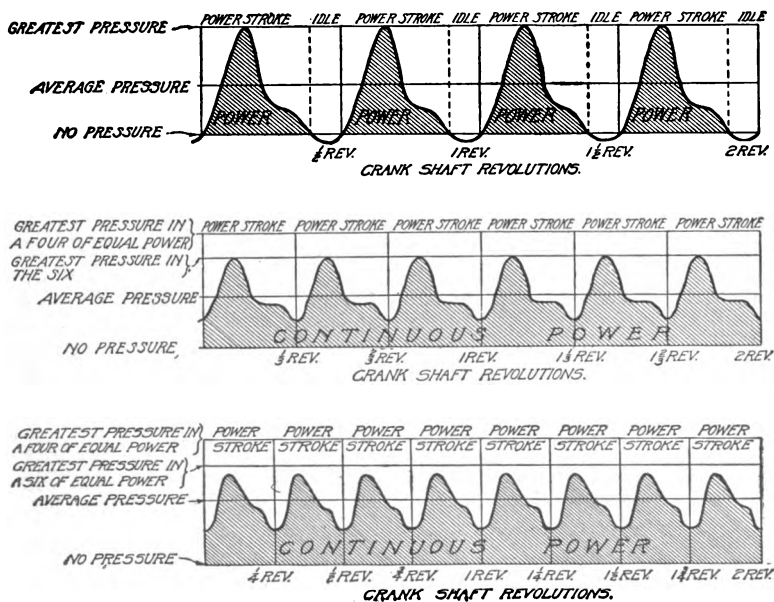

Fig. 36. Curves Showing Duration of Power in Four-, Six-, and Eight-Cylinder Motors
**Theory of Crank Effort. One-Cylinder Motor.** In a single-cylinder motor, four strokes of the piston are required to complete its cycle, *i. e.*, the suction stroke, compression stroke, power stroke, and exhaust stroke. Note that only one of these strokes, the third, makes power. Roughly speaking, power is not produced throughout even the entire part of this stroke, but only through about four-fifths of it. Hence, in a single-cylinder motor with a 5-inch stroke, the piston travel for one complete cycle will be 20 inches. In only about 4 inches of this distance is power produced. (See Figs. 36 and 37.) Hence four-fifths of the total piston travel is a non-producer of power.
cylinder types this would mean an application of power during 120 per cent of the cycle. As this is impossible and as the six cylinders are evenly spaced, the power in the cylinders must overlap each other. This results in continuous power. Diagrams showing the relation between the application of power in the four-cylinder motor, in the six-cylinder, and in the eight-cylinder, are shown in Fig. 36.